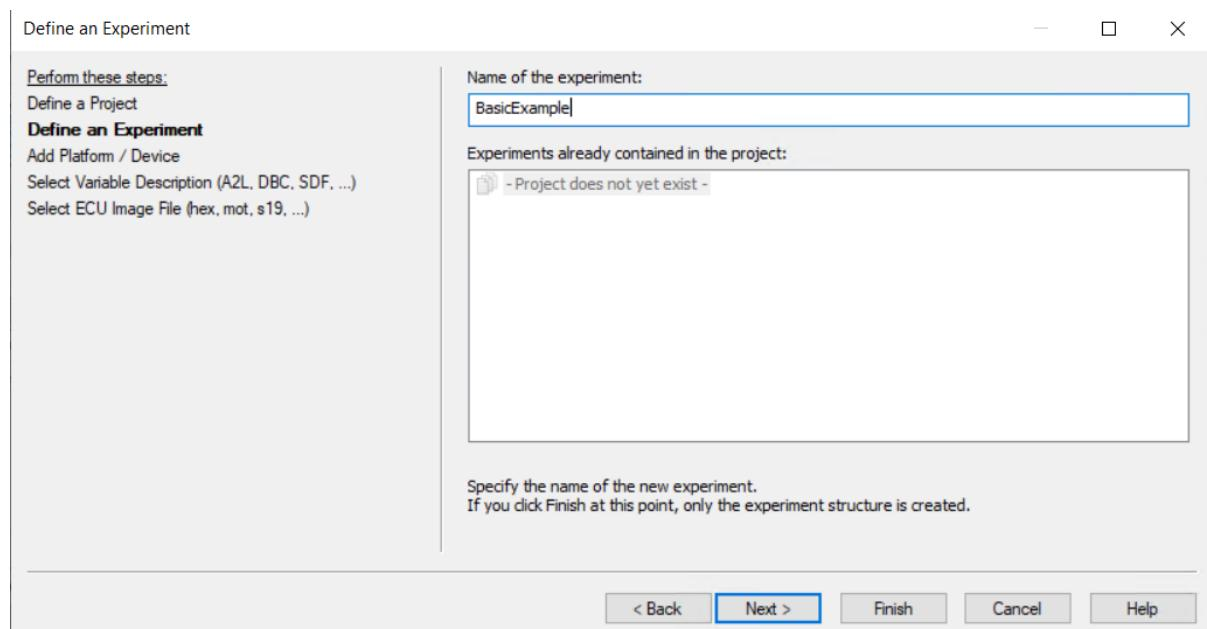

Figure 13.77: Name your experiment.
- 3) Name the experiment to execute (see Figure 13.77).